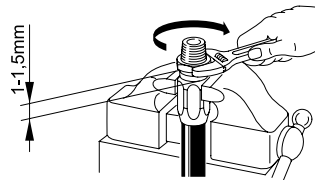

Fig. 4.5
- Do not strip the hose. Clamp the threaded fitting in place and screw the hose into the socket as far as it will go by turning it anti-clockwise, then turn it back through a ¼ turn (Fig. 4.5).
- Holding nipple at the hexagon, screw it into the socket and the hose by turning it clockwise until there is a gap of approx. 1.0 to 1.5 mm between hexagon and socket. Do not tighten it (Fig. 4.5).